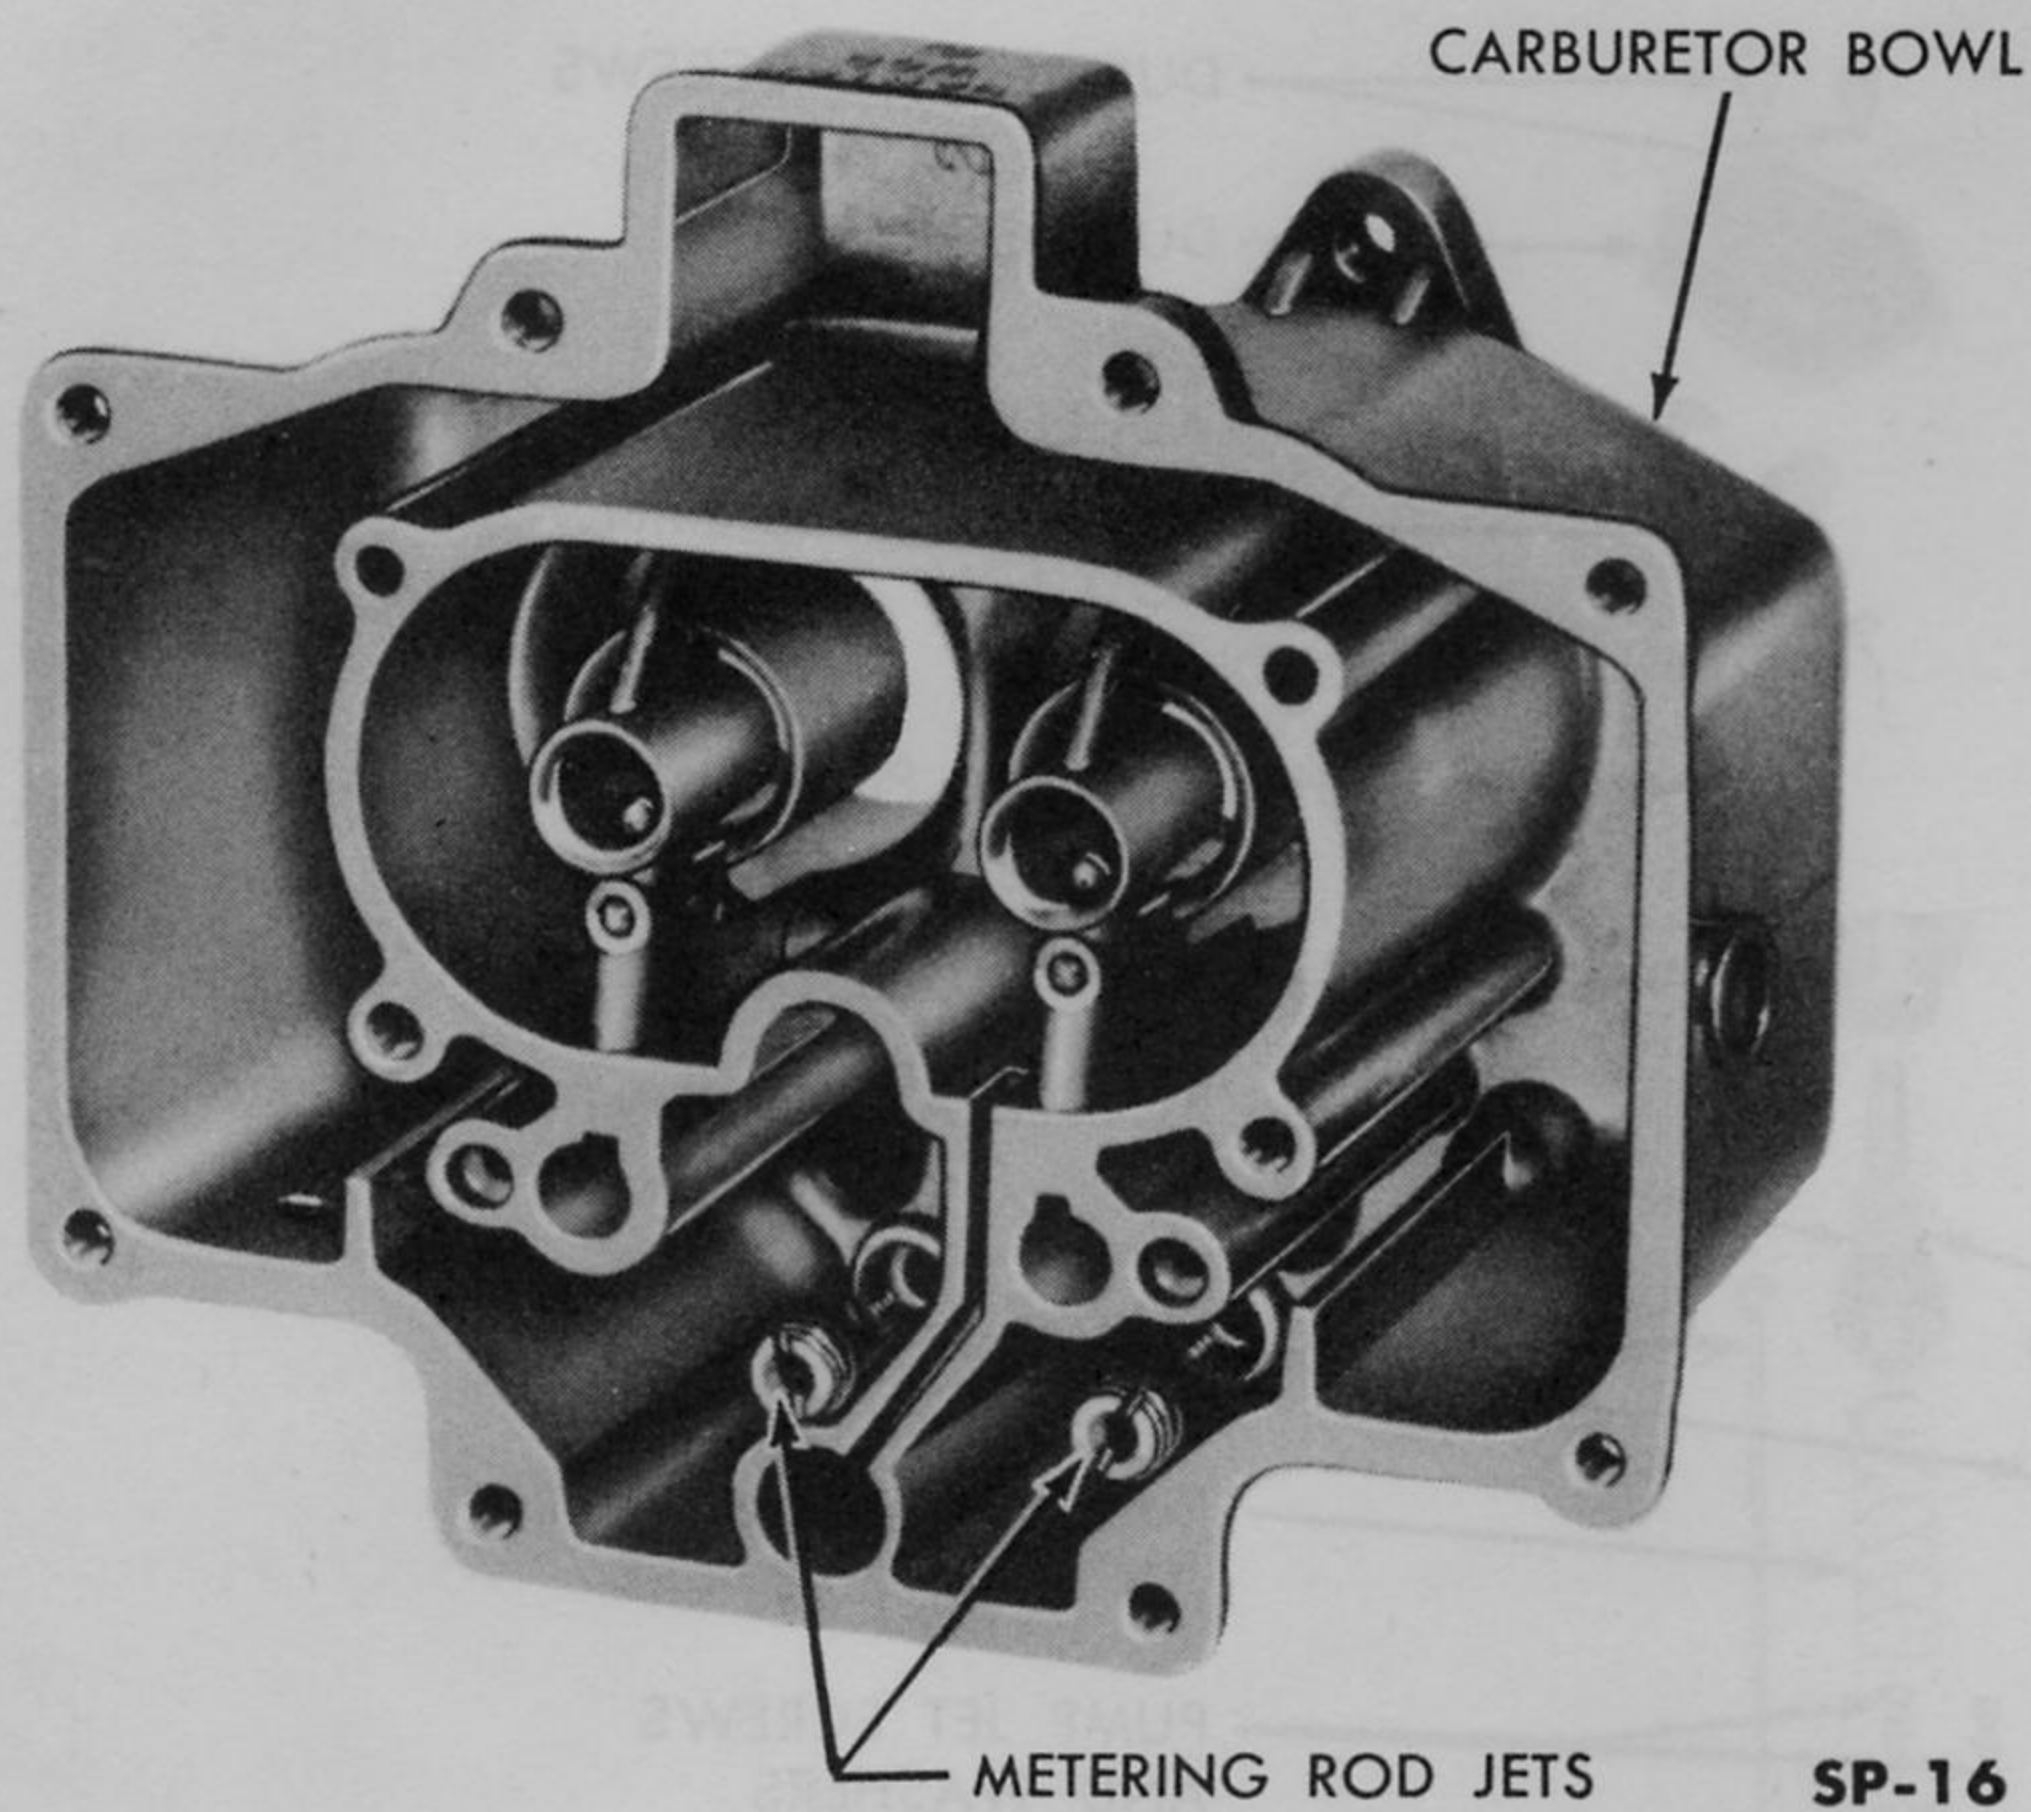

Fig. 135—Carburetor Bowl—Exploded View (WCD-7235)
6. Disassemble Carburetor Bowl (Fig. 135). Lift the vacuum piston spring and lower accelerator pump spring from the carburetor bowl. Remove the two metering rod jets and gaskets with a screwdriver that is wide enough to contact both slots in the jets.
3. Assemble Carburetor Bowl (Fig. 135). Install the two metering rod jets and new gaskets in the carburetor bowl.